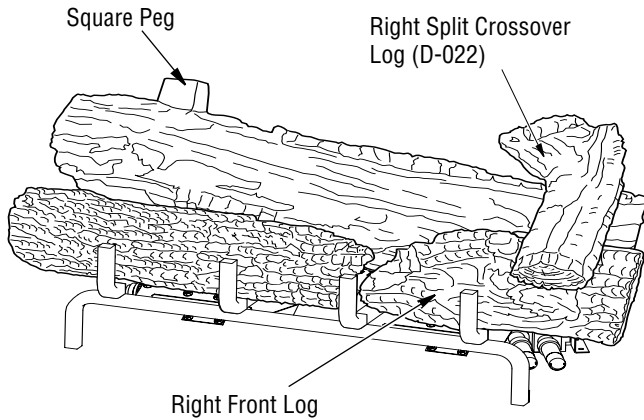

Figure 23 - Installing Right Split Crossover Log
6. Find the right split crossover log (D-022) The bottom of the log has a rectangular stand off that fits in the slots on the right side of the front right log and the middle split log. Place this log as shown in **Figure 23**.